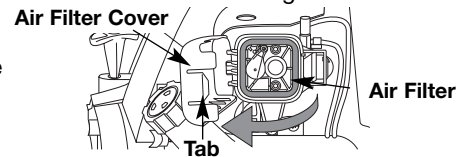

Fig. 25
1. Open the air filter cover. Push the tab on the right side of the cover inward. Then pull the air filter cover out and to the left (Fig. 25).
2. Remove the air filter (Fig. 25).